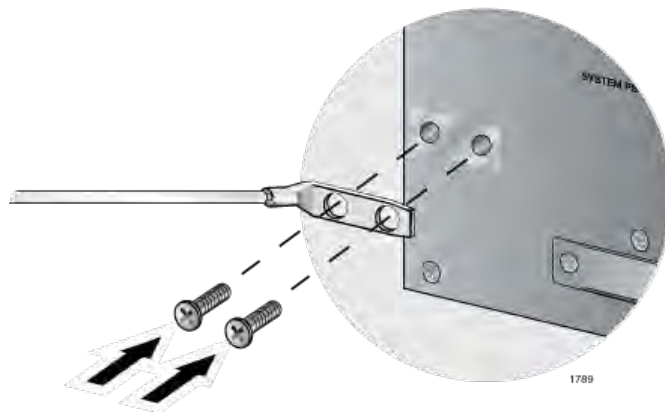

Figure 50. Installing the Grounding Lug and Wire
4. Install the grounding lug on the rear panel of the chassis, as shown in Figure 50.